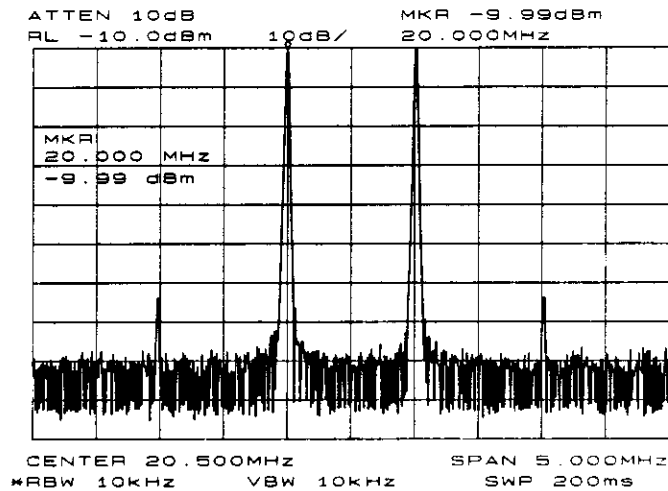

Figure 3-9. Signal peak set to reference level.
3. For greatest measurement accuracy, position the peaks of the source signals at the reference level. The spectrum analyzer function **MARKER -> REF LVL** allows you to set the reference level using a marker. First, place a marker on the source signal of highest amplitude by pressing **PEAK SEARCH**. Then set the reference level to this value by pressing **MKR ->**, and then **MARKER -> REF LVL**. Figure 3-9 illustrates the resulting display.